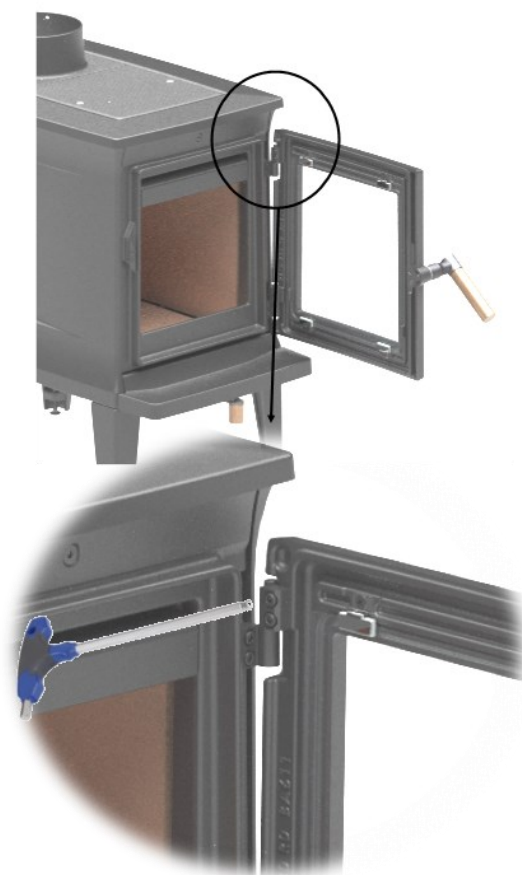

FIG. 7
1. Open the door and remove it by loosening the fastening screws of the hinges fixed to the door (fig. 7).